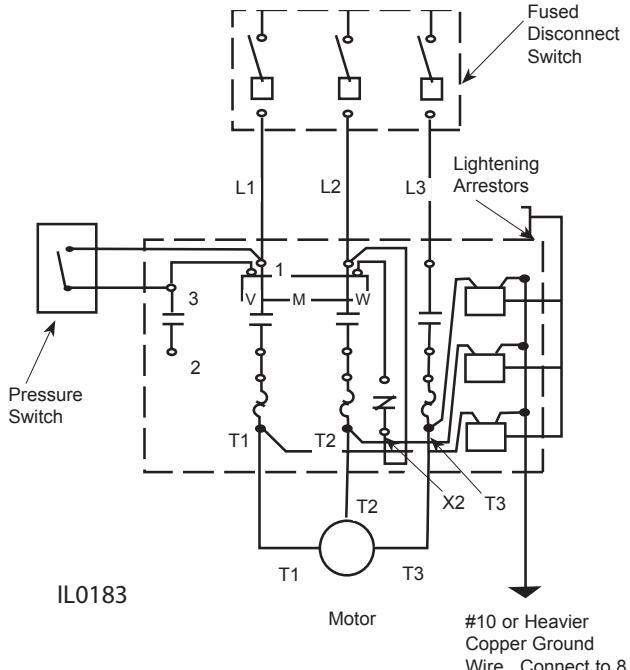

Figure 10 — Magnetic Starter Wiring Diagram — Three Phase
2. Three-phase motors do not have built-in thermal protection. It is recommended that a properly sized magnetic or manual starter (both with properly sized heaters) be used with all three-phase motors. Install starters following instructions of the starter manufacturer. See Figure 10 for magnetic starter wiring program.